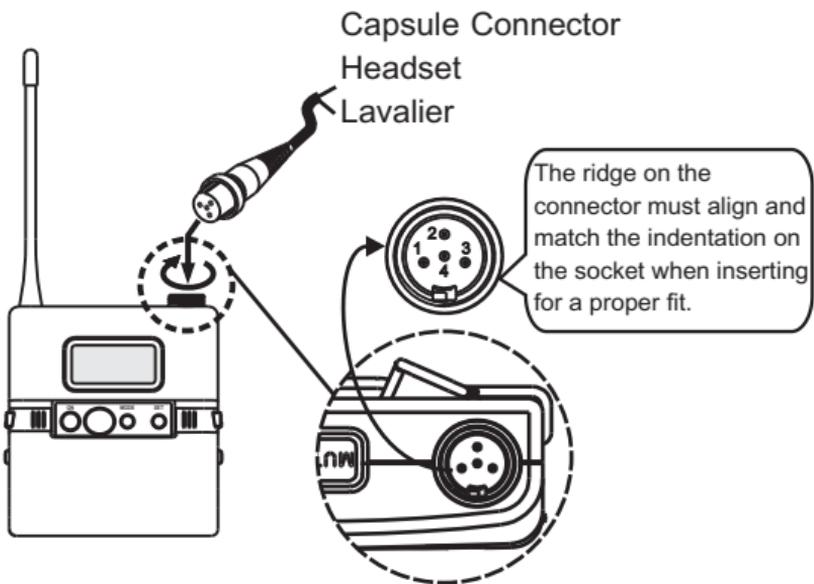

Fig. 3
1. Before turning on the power, connect the input signal source to the microphone input jacket ① first to avoid open-circuit induced noise.
2. Align and fasten the connector clockwise for a secured fit, Fig. 3.